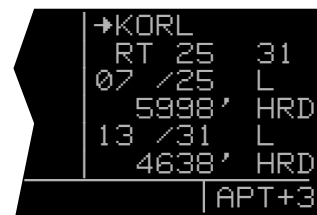

Figure 3-137
The primary APT 3 page (figure 3-137) follows the runway diagram. Runway designation, lighting, and types of surface for up to five runways are displayed in order of length, beginning with the longest. Since there are many times when all of an airport's runway information does not fit on one page, additional APT 3 pages are used to display the data. Remember that a "+" inserted between the page type and the number (**APT+3** in this case) is used to indicate that there is more than one Airport 3 page.
- The letters "RT" followed by a runway designation indicate that the runway normally has a right hand traffic pattern. In figure 3-137, **RT 25 31** designates that runways 25 and 31 have a right hand traffic pattern.